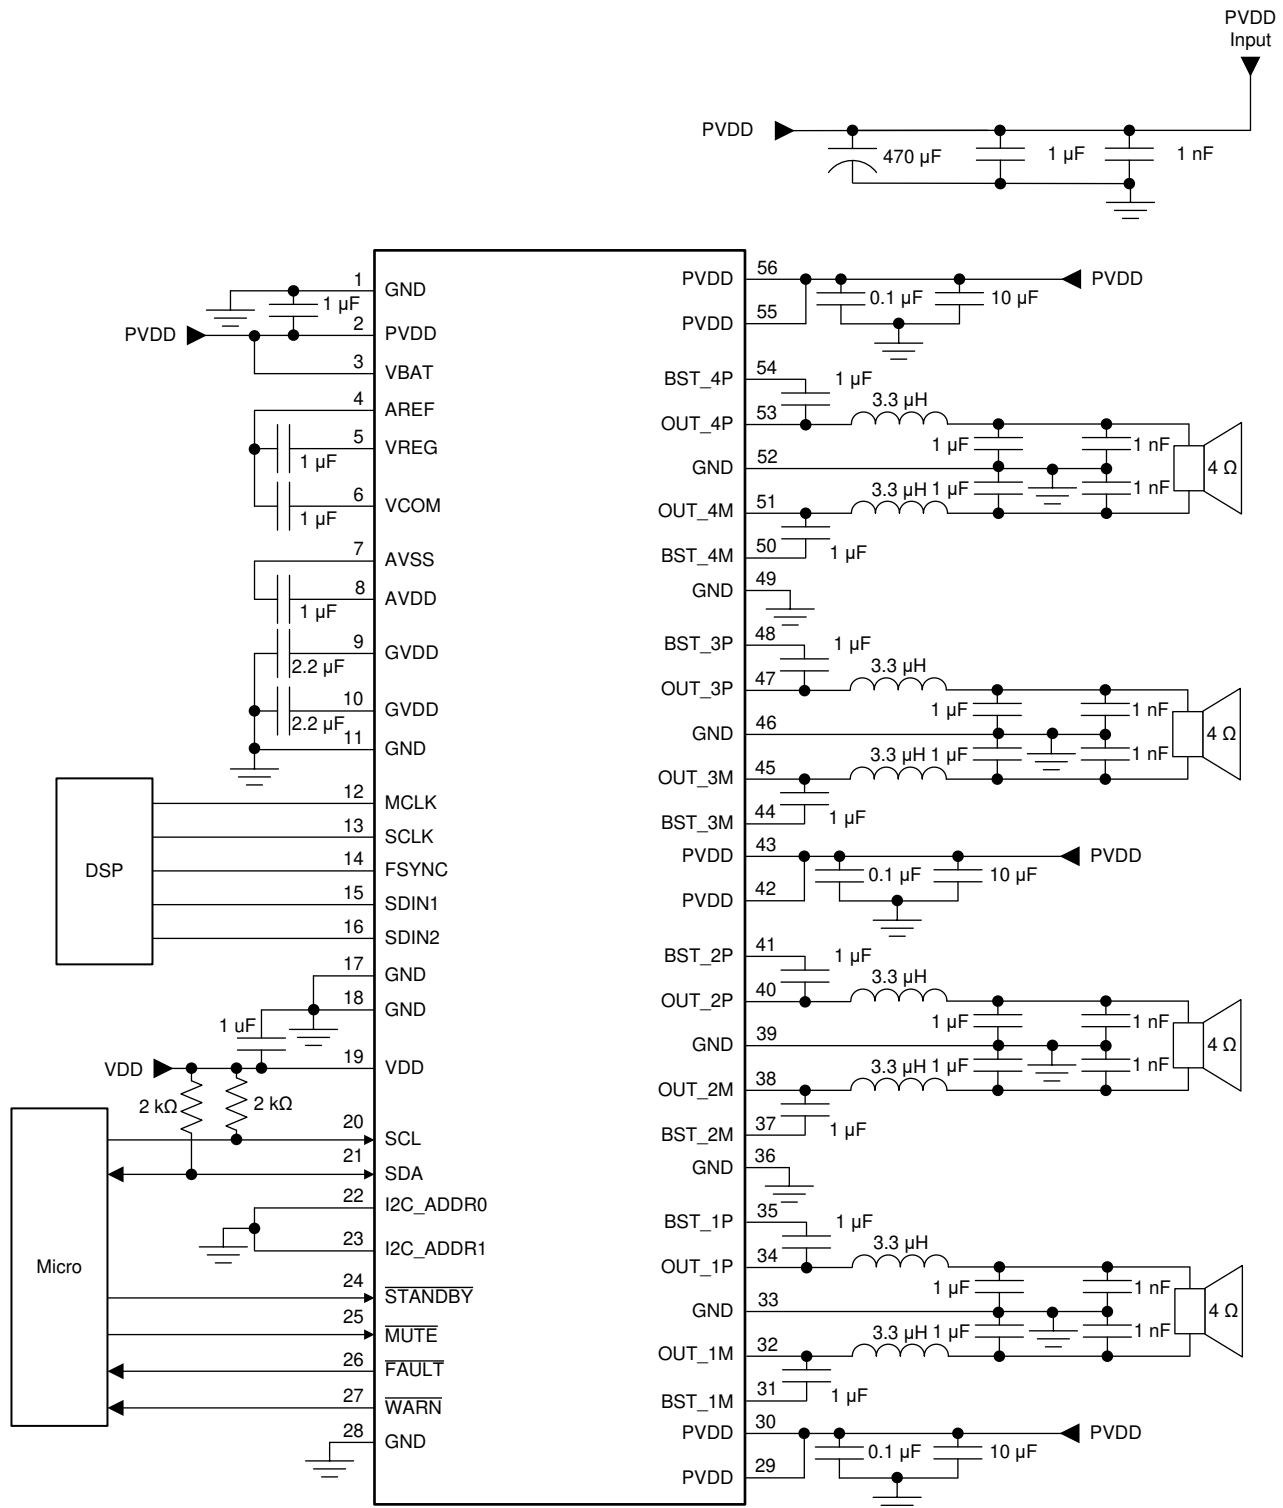

图 10-2. Typical 4-Channel BTL Application Schematic
Figure 10-2 shows the schematic of a typical 4-channel solution for a head-unit application.
- With the requirements, adjust the typical application schematic in 图 10-2 for the input connections.